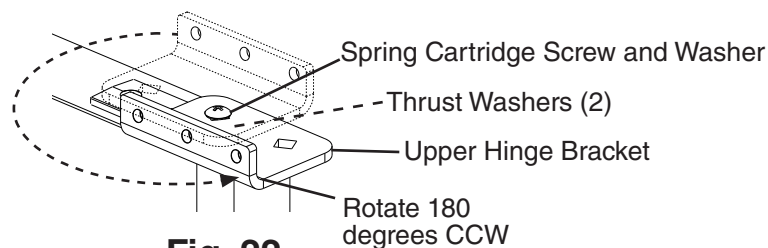

Fig. 22
- 4) Rotate the upper hinge bracket 180 degrees counter clockwise. See Fig. 22. Next, remove the spring cartridge screw and washer, then remove the upper hinge bracket and thrust washers (2). Set the door aside. Retain the upper hinge bracket thrust washers for opposite side hinge bracket installation.